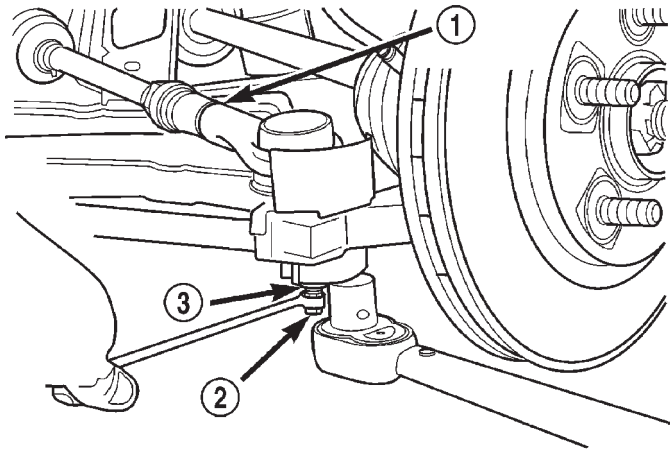

Fig. 4 Tools On Outer Tie Rod Nut
(4) Remove both front tire and wheel assemblies from the vehicle.
(5) Remove nuts attaching both outer tie rods to the steering knuckles (Fig. 4). Remove each nut by holding the tie rod stud stationary while loosening and removing the nut with a wrench.